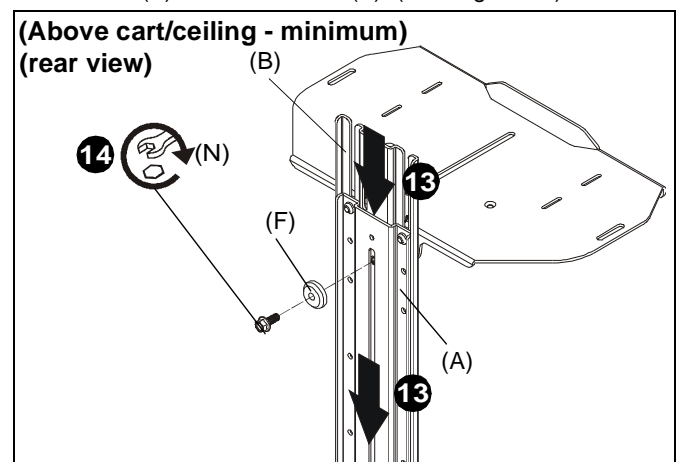

Figure 25
13. (For **minimum extension**) Slide upright bracket (A) behind main bracket (B). (See Figure 25)
14. (For **minimum extension**) Use 1/4-20 x 5/8" hex head flange bolt (N) and center washer (F) to secure upright bracket (A) to main bracket (B). (See Figure 25)